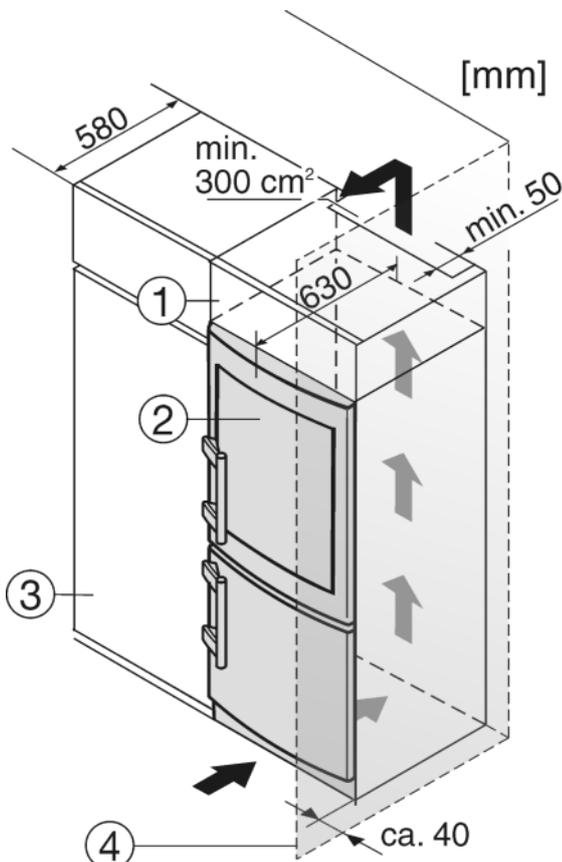

Fig. 20
- (1) Stack cabinet
- (2) Appliance
- (3) Kitchen cabinet
- (4) Wall
The appliance can be built into kitchen units. A top cupboard Fig. 20 (2) can be added above the appliance in order to bring the appliance Fig. 20 (1) up to the height of the fitted kitchen units.
When retrofitting with kitchen cabinets (max. depth 580 mm) the appliance can be installed directly next to the cabinet Fig. 20 (3). The appliance door projects 34 mm from the front of the kitchen cabinet at the side and 50 mm at the centre of the appliance. This is so that it can be opened and closed easily.
If the appliance is installed with the hinges next to a wall Fig. 20 (4), the distance between appliance and wall has to be at least 40 mm. This corresponds to the projection of the handle when the door is open.